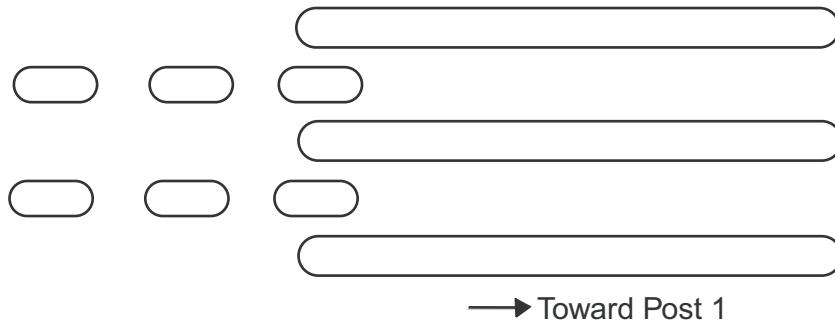

FIGURE 5
Guardrail panels (PC-30G and PC-39G and PC-69G) have two (2) sets of slots. These slots should be between posts 1 and 2, 2 and 3, 3 and 4, and 4 and 5. The guardrail panels should be installed so that the slot guard attachment holes are at the end of the slots away from the end of the terminal. **See Figure 5.**